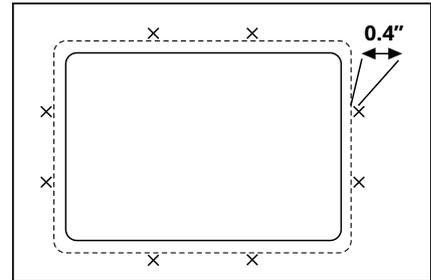

fig. 2
2. Mark the places for drilling holes 0.4" from the outline. They will be used for installing sink clips that will hold and secure the sink in place. Holes should be at equal distances from one another (see fig. 2).